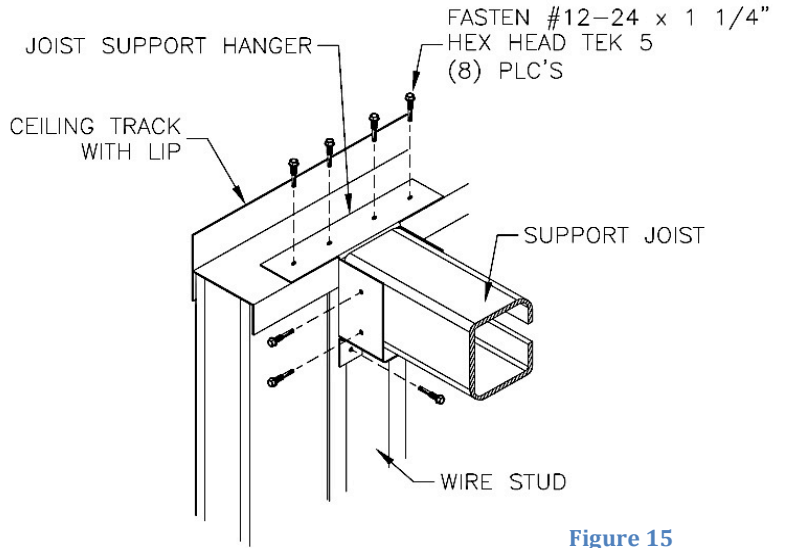

Figure 15
Step 1: Place steel roof deck joist support hangers where indicated on the **Wall Panel Layout**. Joist support hangers should always be placed on top of the ceiling track and located directly over a wall stud. Fasten through pre-punched holes and into ceiling track with six #12-24 x 1 1/4" hex head TEK 5 self-drilling screws. (See Figure 15)